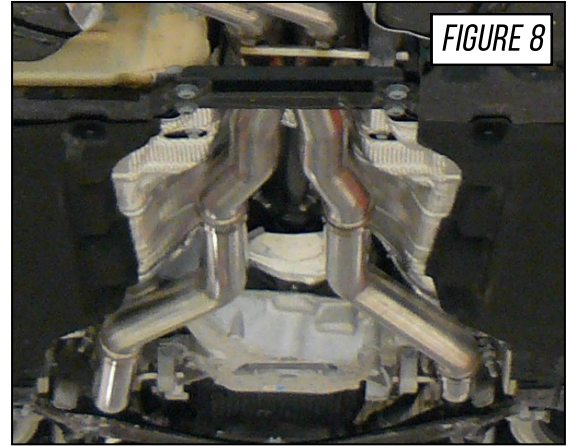

FIGURE 8
Place two (2) 2.5" Accu-Seal clamps over each inlet side of the downpipe lower sections (part A12 & A13), install into place as shown in **Figure 8**. Be sure to fully seat the pipes over the corresponding downpipe upper sections outlet pipe.